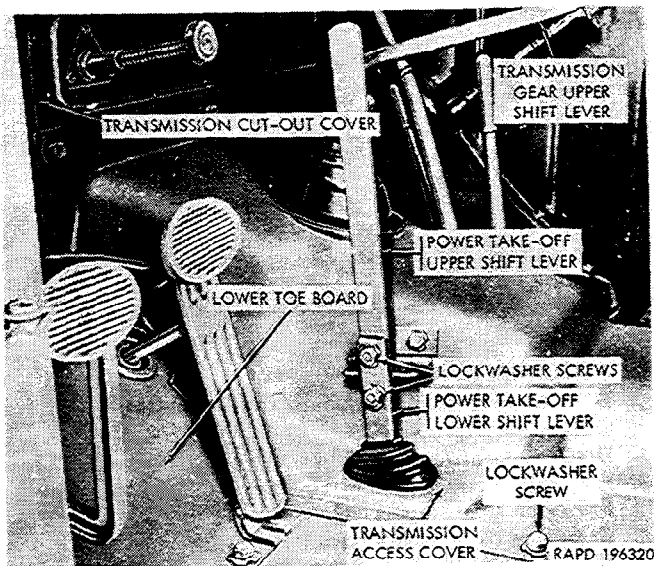

Figure 2-96. Items removed in driver's compartment.
(7) Disconnect the upper exhaust pipe (P) from the lower exhaust pipe by loosening the eyebolt nuts and disengaging the two eyebolts.
(8) Remove the nut, lockwasher, screw, and plain washer that secure the engine front support plate (F) to the support plate bracket.
(9) Remove the cotter pin, slotted nut (N), and plain washer from the engine rear support bolt. Remove the bolt, plain washer, and lower insulator. Discard the insulator.
g. Remove Transmission Access Covers (Fig. 2-96).
(3) Position the transfer control lever bracket and assembled parts at the right side of the transmission, aligning the screw holes in the bracket with those in the transmission case. Install the three lockwashers and cap screws. Tighten the screws evenly.
(4) Install the battery-to-starter cable through to the engine compartment, and engage the cable in the cable clip on the transmission.
f. Install Transmission Access Covers (fig. 2-96).
(1) Position the transmission cutout access cover on the dash panel and install the three lockwasher screws, in the three upper holes.
(2) Install the transmission access cover and the fourteen lockwasher screws. Tighten the screws.
(3) Install the transmission gearshift upper lever on the lower lever and install the bolt, lockwasher, and nut. Tighten the nut.
(4) Position the power-takeoff upper shift lever on the lower shift lever with the screw holes aligned. Install the two lockwasher screws. Tighten the screws.